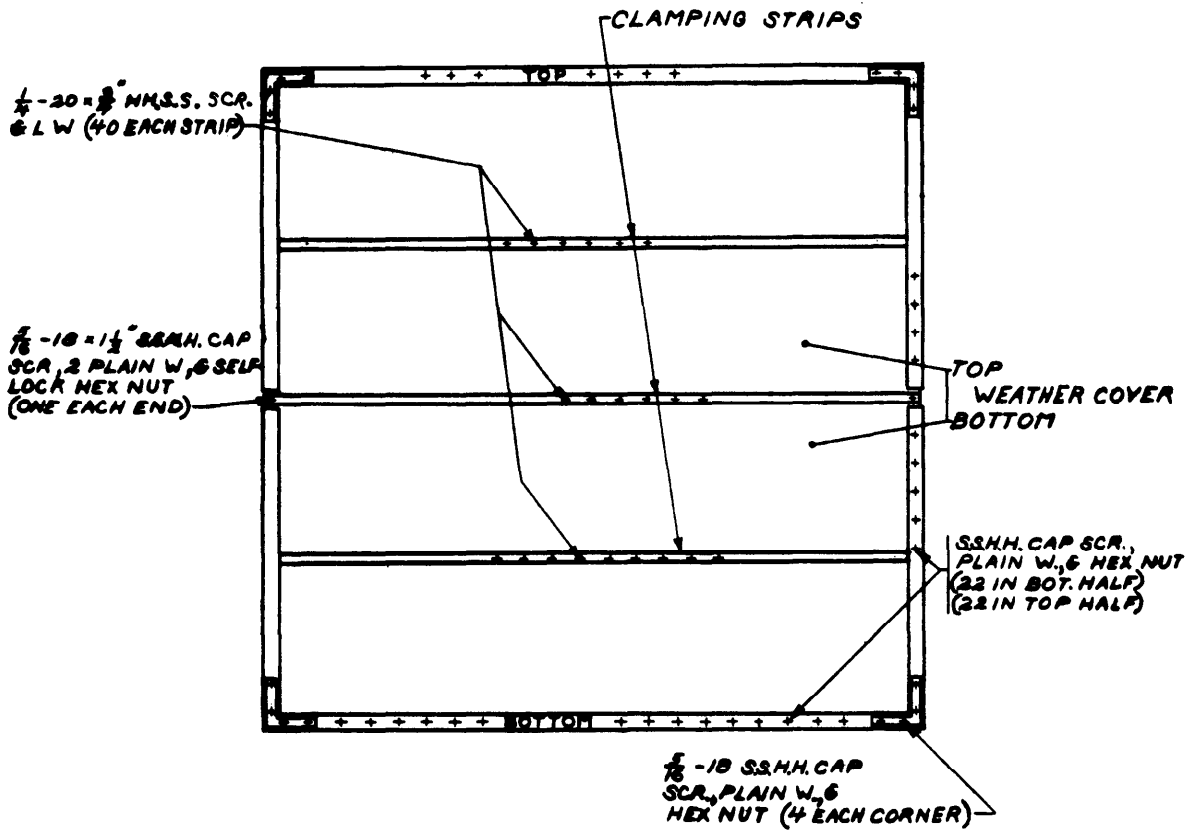

Fig. 1 - Weather Cover Assembly
2.02 Remove, progressively, the 1/4 -20 by 3/4-inch HH self-tapping screws (type F Parker-Kalon or equivalent), which are equipped with lock washers, from the clamping strip over the center of the top cover; then remove the clamping strip (see Fig. 1).
2.05 Remove the top half of the weather cover by removing the stainless steel HH cap screws, which are equipped with plain washers and self-locking nuts, from along the top and two sides of this section of the cover (see Fig. 1).